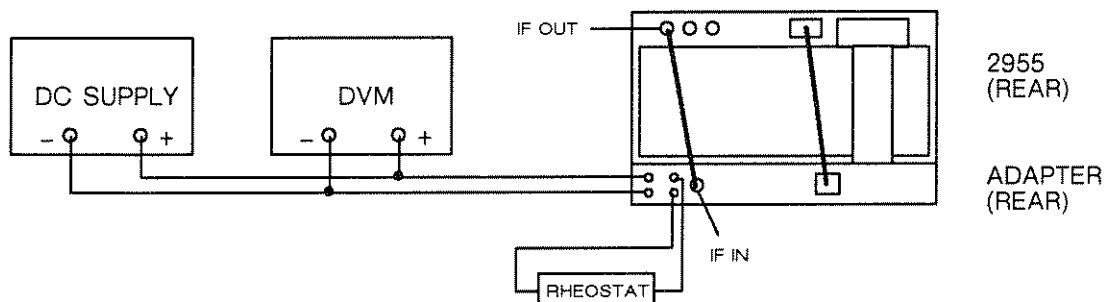

Fig. 5-9 Test equipment connections for DC meter test
- (1) Connect the DC power supply to the Adapter's DC IN connectors, connect the DVM to the same connectors and connect the rheostat across the Adapter's DC OUT connectors as shown in Fig. 5-9.